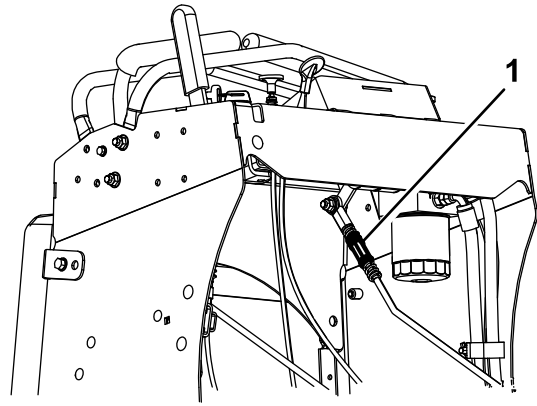

Figure 47
5. Rotate the adjustment rod on the left side of the machine (Figure 47).